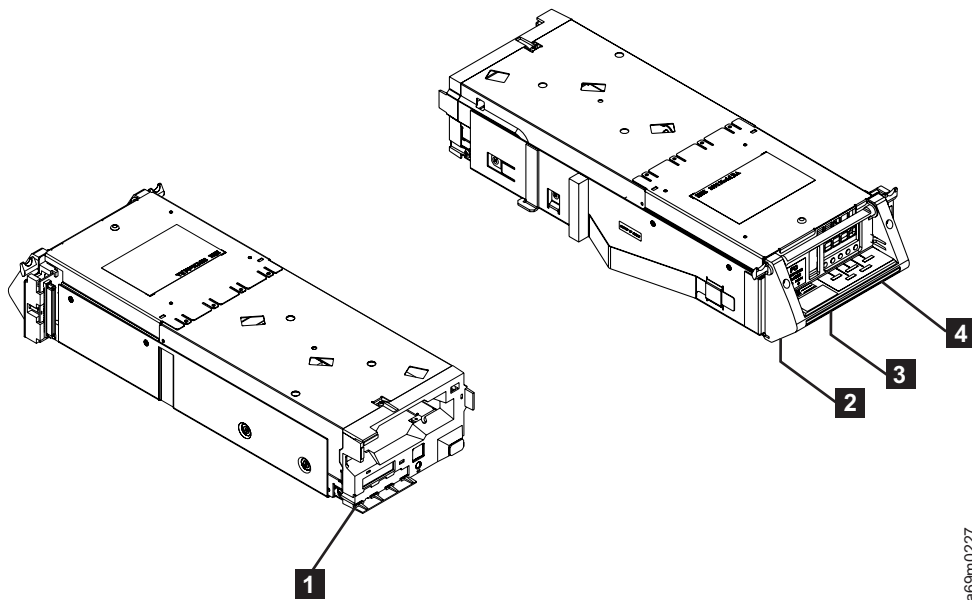

Figure 80. Removing or replacing a drive canister assembly - 3592 Fibre Channel hot swap
5. Refer to Figure 80. Unplug the fibre cable.
- If a logical library label (see **4** in Figure 80) is attached to the old drive, remove it from the old drive and attach it to the new drive.